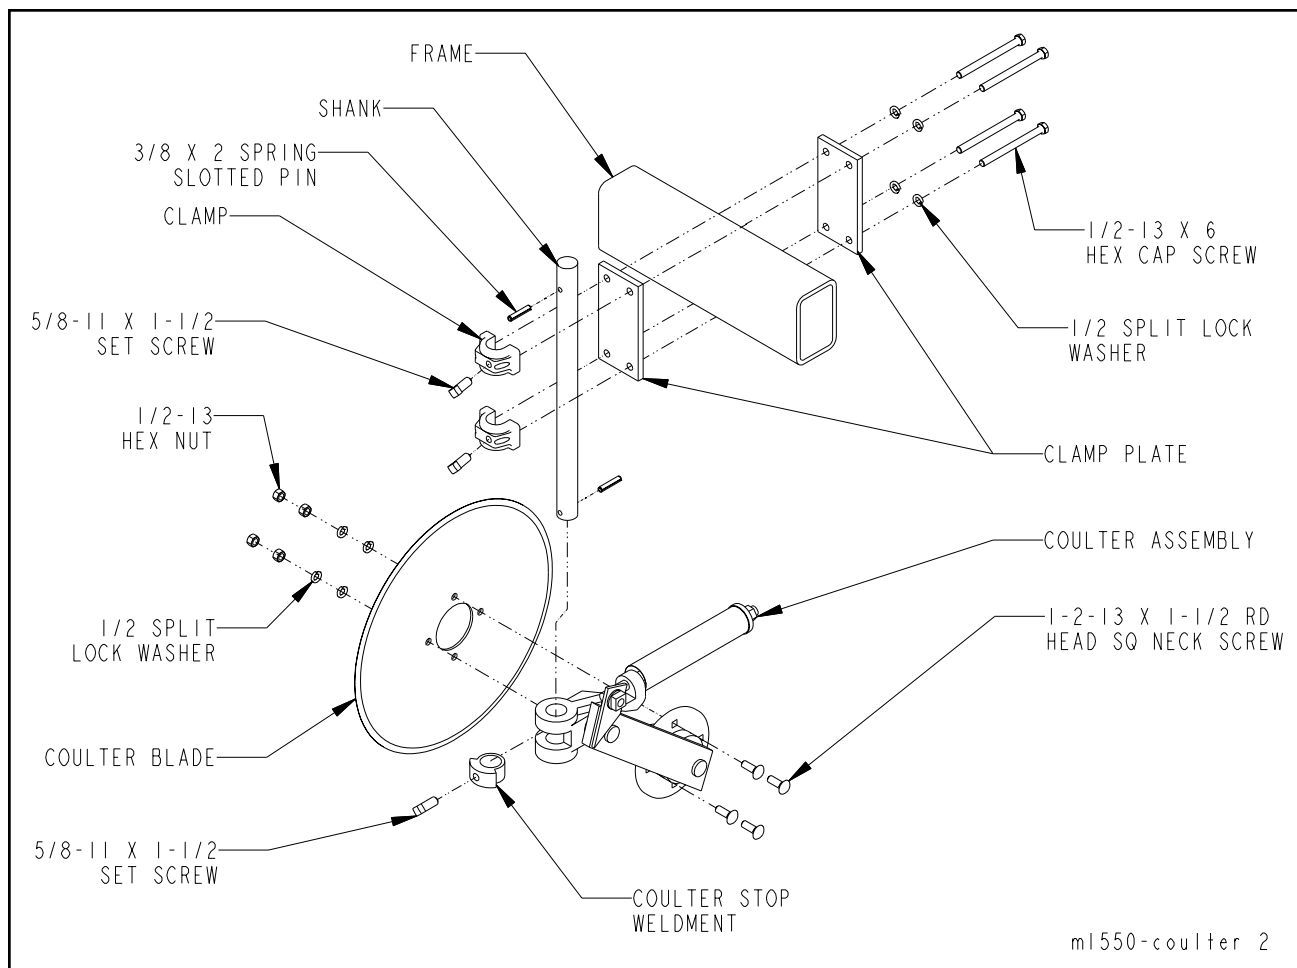

Figure 3-4 Coulter Assembly
- 3-7.2** Install the shank and coulter assembly to the frame with the coulter clamps and plates using 1/2-13 x 6 hex head cap screws and hex lock washers (**See Figure 3-4**).